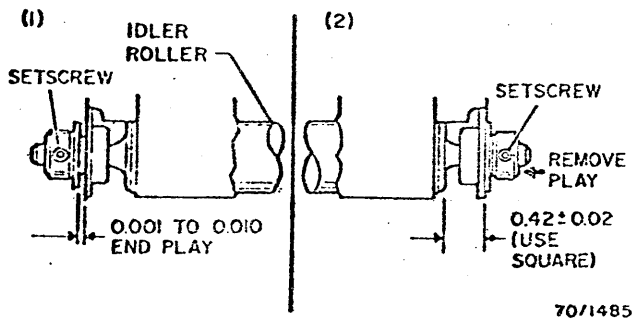

Fig. 3-129. Idler Roller Position and End Play Adjustment
1. Loosen setscrew and using a square, adjust to the dimension shown on the right in Fig. 3-129.